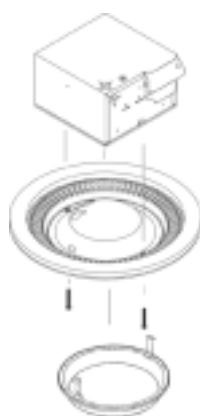

Fig. 3
4. Plug the light fixture into the appropriate receptacle and secure the grill base/reflector to the fan housing via the two 2" screws through the base and into fan housing (two clips on fan housing). Refer to figure 3.